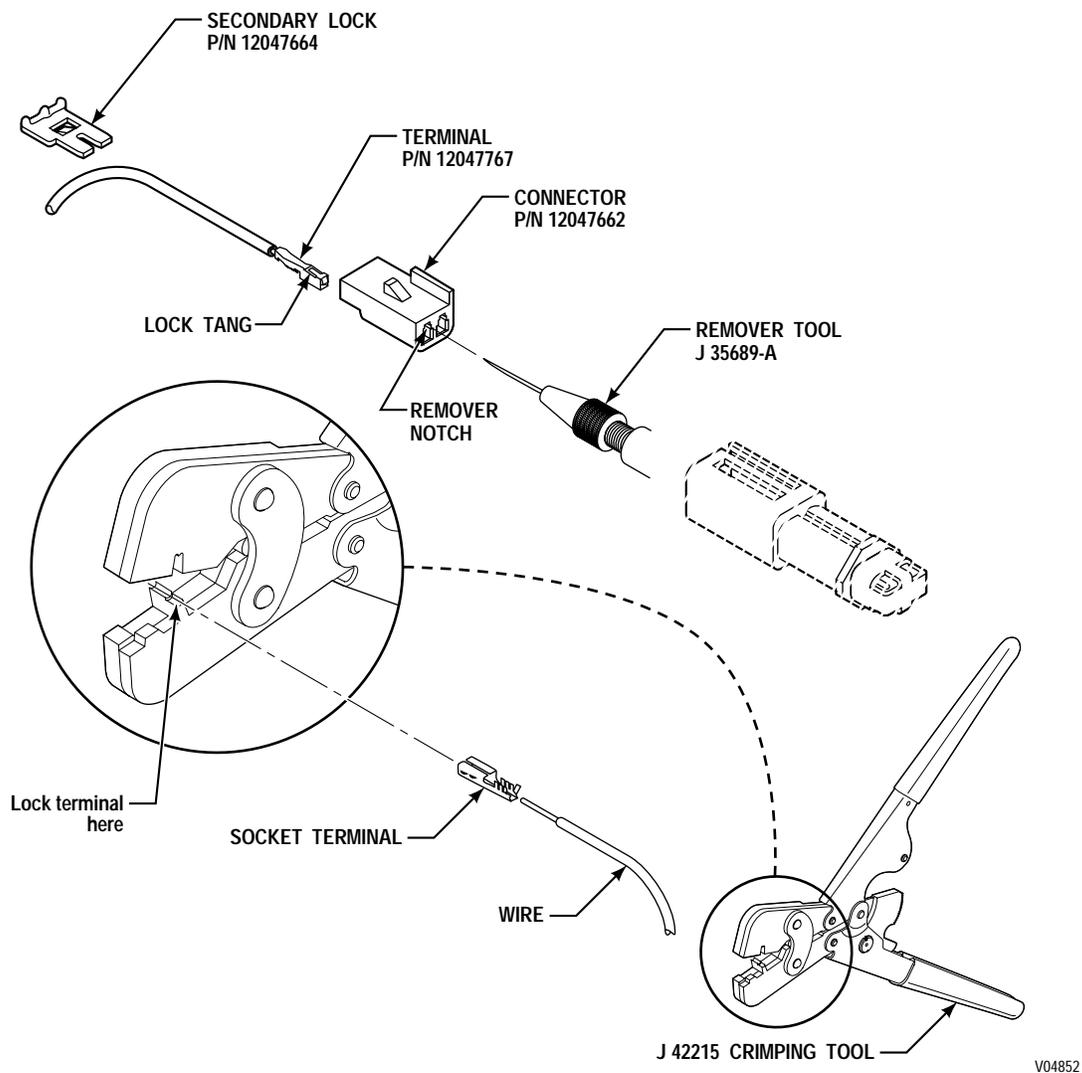

Figure C-3. Delphi-Packard Metri-Pack 150 Series Connector — Push-To-Seat (Sump Temperature Thermistor)
2. Insert needle end of terminal remover J 35689-A into the small notch in the front of the connector cavity of the terminal to be removed (refer to Figure C-3).